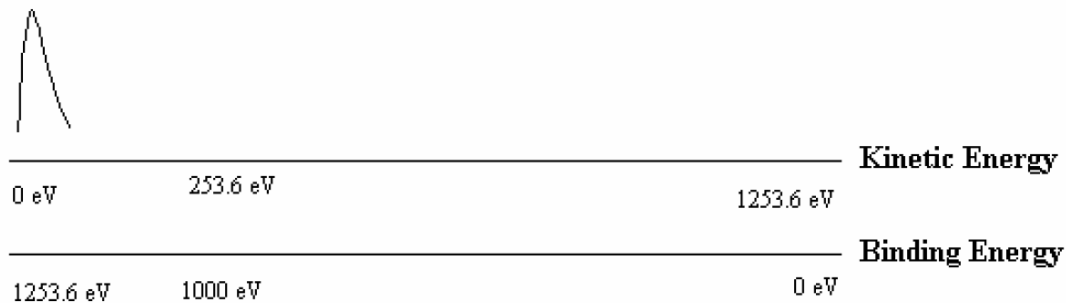

Figure 1. Low Energy Ion Peak
4. Start the alignment and turn on the ion gun (no raster). You should have a low energy peak at around 20 to 50 eV KE. (see Figure 1)